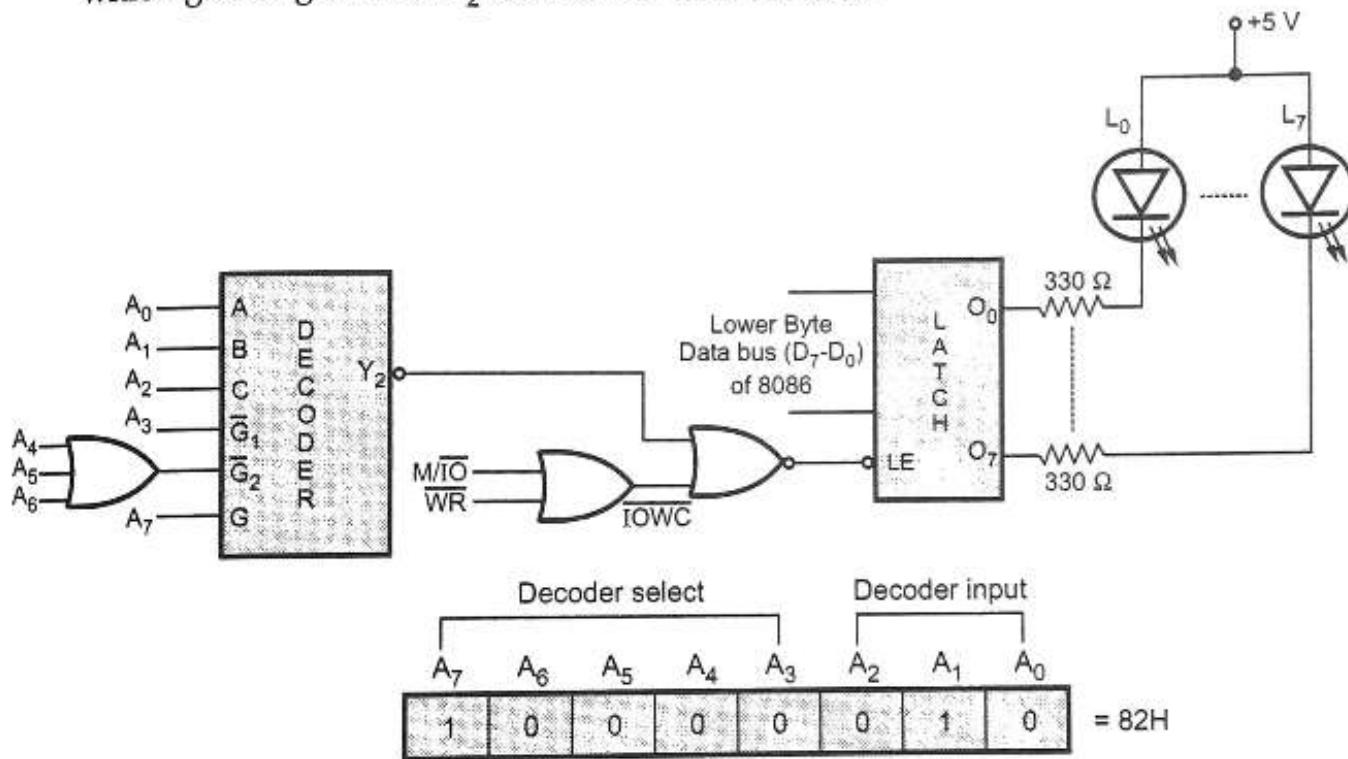

Fig. 3.1.5 Circuit diagram to interface 8-bit output port
- Fig. 3.1.5 shows the circuit diagram to interface 8-bit output port (latch) which is used to send the signal for glowing the LEDs. LED will glow when output pin status is low.